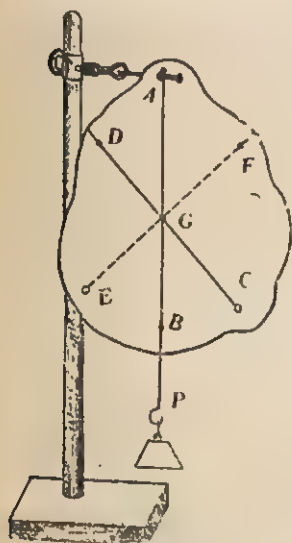

Fig. 2.3. Lamina and plumb line suspended from the same support.
**Procedure.** (1) Make small holes at three positions near the periphery of the lamina and suspend it with the help of the pin and the stand as shown in Fig. 2.3.